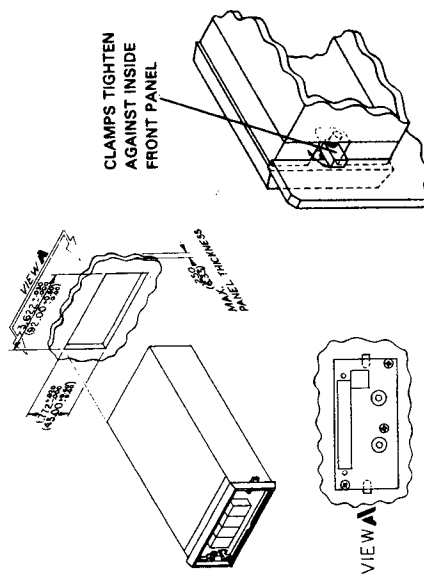

FIGURE 2-1. PANEL MOUNTING
2.2.1 *Mounting.* Standard mounting configuration of the indicator is for a panel installation. The panel cutout dimensions are 45 mm high by 92 mm wide (1.77" H x 3.62" W). Mounting of the indicator in the optional rack panel is similar to a panel installation. A drawing of the rack panel option is in the back of the manual. See Figure 2-1 for panel mounting details.